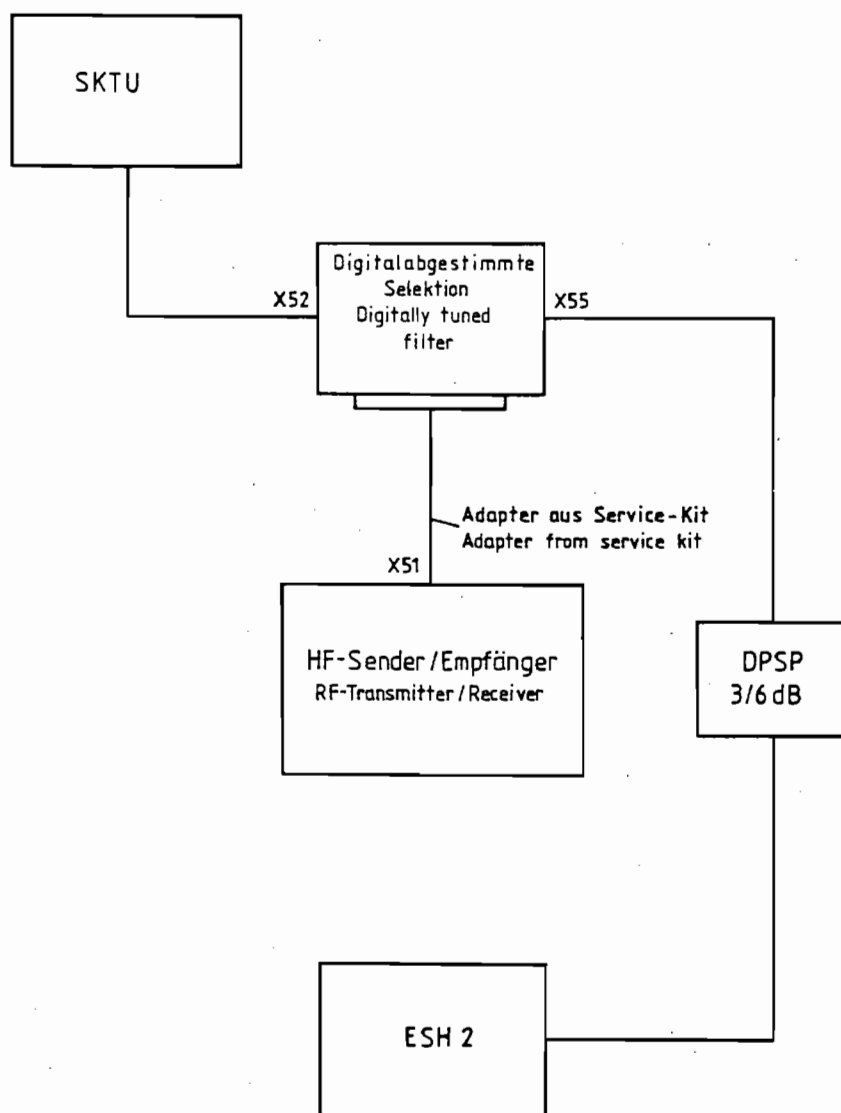

Fig. 6.4 Test Set-up for Measuring Noise Figure
1. Arrange a test set-up acc. to Fig. 6.4.